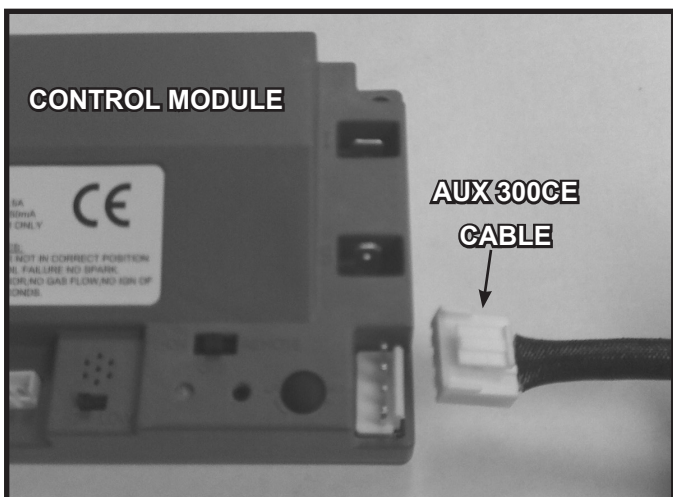

Figure 10.7. AUX 300 module installation
- Insert the 4 hole harness from the AUX300CE module into the 4 pin plug on the control module. See Figure 10.7.